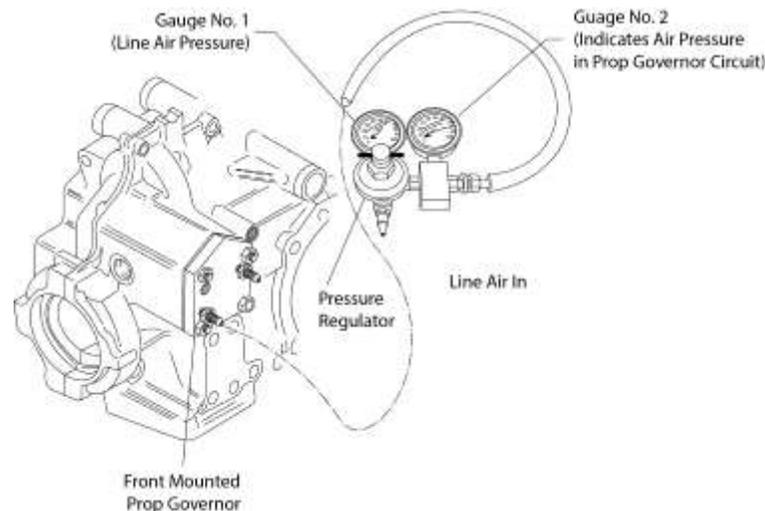

Figure 100
- (6) Apply shop air to the differential pressure regulator and adjust it to 40 psi (276 kPa) on the Gauge No. 1 (Figure 100. With the engine at operating temperature, the pressure reading on the Gauge No. 2 must read 6 to 35 psi (41 to 241 kPa), if the system is operating correctly.